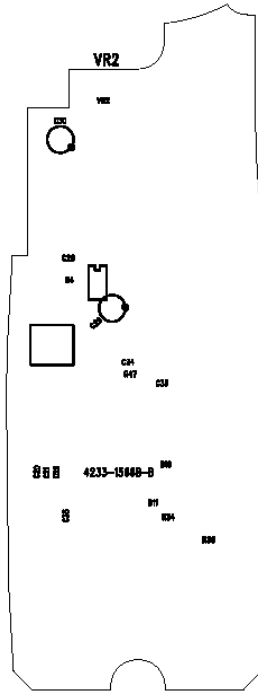

Figure 1B (61-746)
**A AC Calibration:****61-744 (Refer to Figure 1B), 61-746 (Refer to Figure 2B) (Adjustments made under front panel label.)**